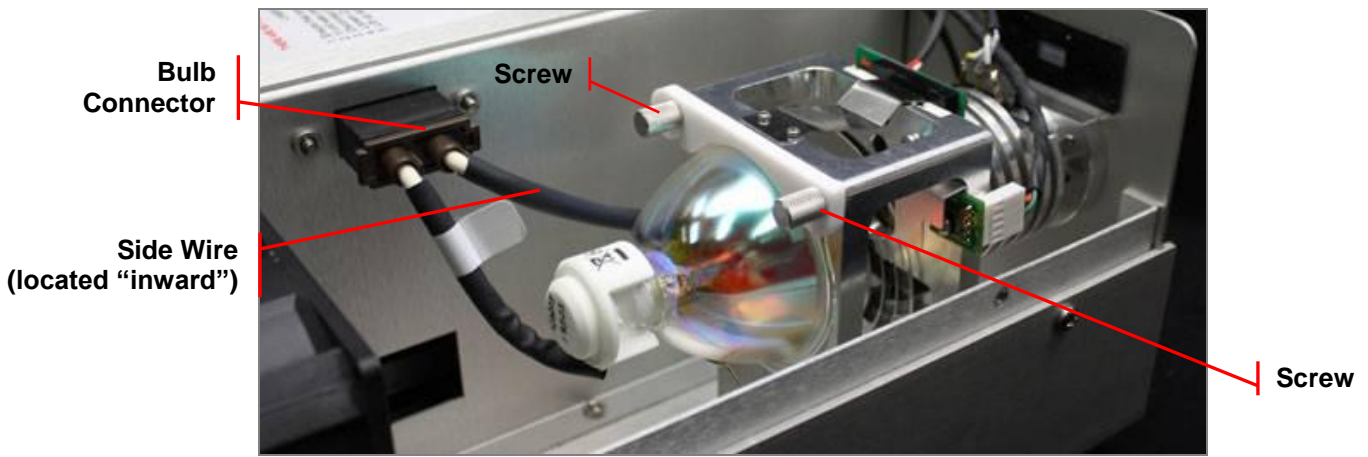

Figure 13. Bulb Replacement Step 6
6. Pivot the white Bulb Clamp in place and tighten the two knurled screws. Plug in the Bulb Connector. (See Figure 13).